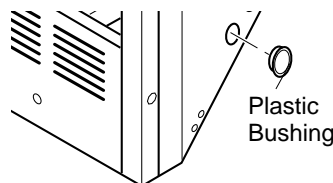

Figure 11 - Installing Plastic Bushing for Power Cord
- a. **If your firebox is installed as a free-standing unit**, determine whether the power cord will exit the left side or the right side of the firebox. Install 1 plastic bushing provided into the 1 1/2" hole in the floor support on the exit side. Install the second plastic bushing provided into the 1 1/2" hole in the outer casing through which the power cord will exit (see Figure 11). Route power cord through both plastic bushings and plug the power cord into a 3-prong grounded wall receptacle near the firebox.